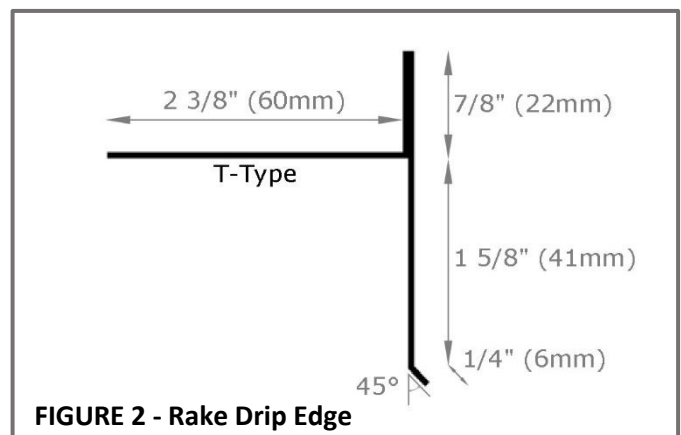

FIGURE 2 - Rake Drip Edge
- **RAKES** - F-WAVE requires a **T-Type rake drip edge** at rakes to cover the cut edge of the shingles. Apply drip edge over underlayment at rake edges. Apply a **1/2" (13mm)** bead of approved adhesive to drip edge. Trim shingles **3/16" (5mm)** from T-Type rake drip edge. See **Figure 2**.